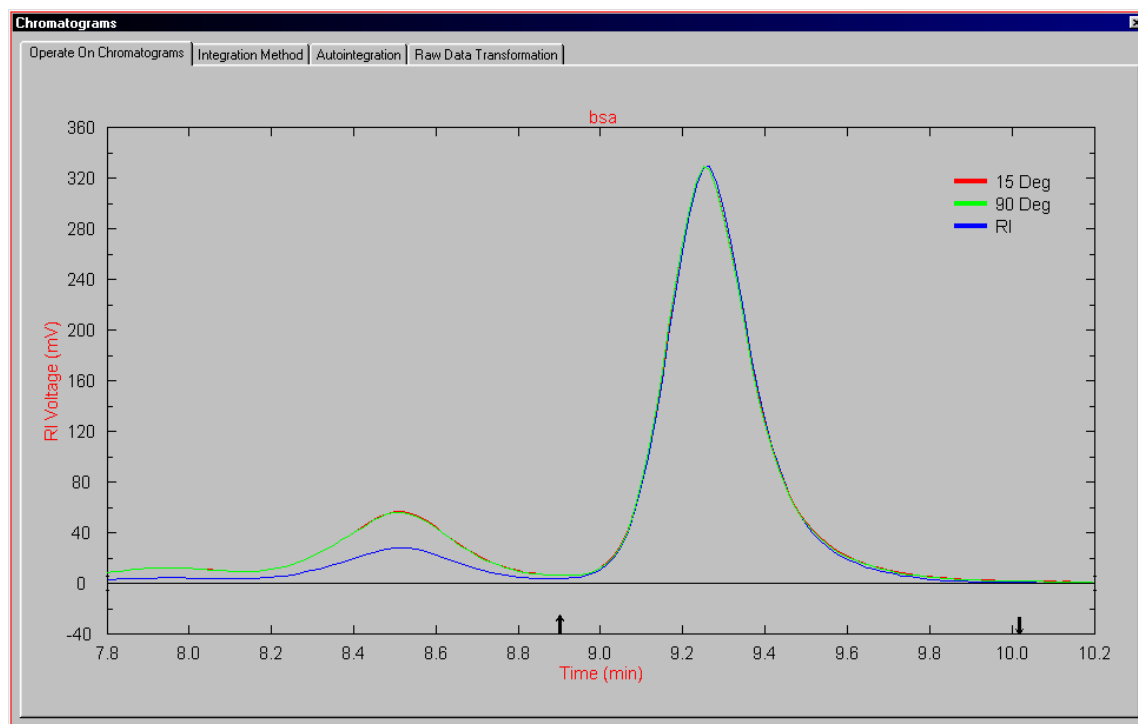

Figure 6-11: Normalized, Zoomed Display
- b) Click on the left mouse button and drag to the opposite corner, then release the mouse button. In this example, we will start at 4.0 minutes by the lower baseline and drag the mouse to 13.0 by the upper boundary. This zoom will present the display shown in Figure 6-11. (Avoid any baseline perturbations such as large negative dips near the terminal region of the chromatogram. This is more prominent with RI detectors than observed for UV.)
The arrows on the baseline indicate the region for which the area will be determined (e.g. between 9.2 and 9.8 minutes on Figure 6-11). You may also move previously determined baseline arrows by holding down the Ctrl button and clicking the arrow to be moved. Hold the left mouse button down and drag the arrow to where you want to relocate it.